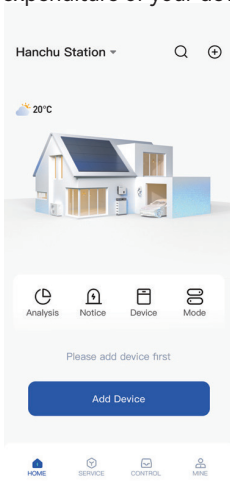

Fig. 4
– Please tap the "Add Device" button , as shown in Fig. 4. Then you can directly turn to **b.Network configuration**.